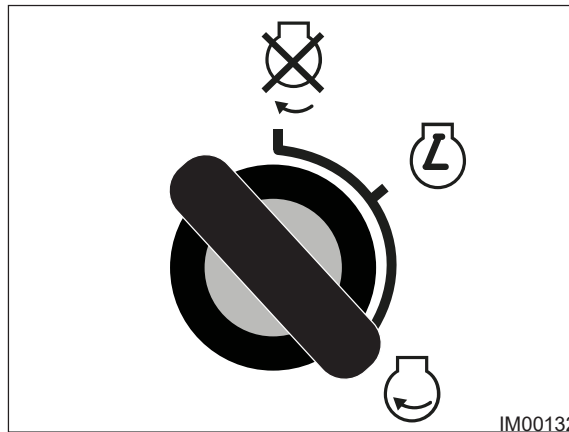

Fig: 5.4 - Ignition Crank Position
7. Once the display has powered up, rotate the Ignition Key to the Crank position and hold (Fig: 5.4).